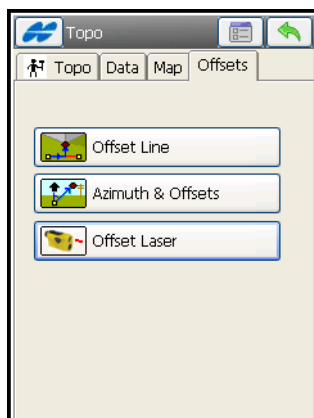

Figure 8-19. Topo – Offsets
7. If the location of the point to be observed is unreachable, set offset parameters using a simple offset or offsets from a line. Tap the *Offsets* tab (Figure 8-19 on page 8-22).